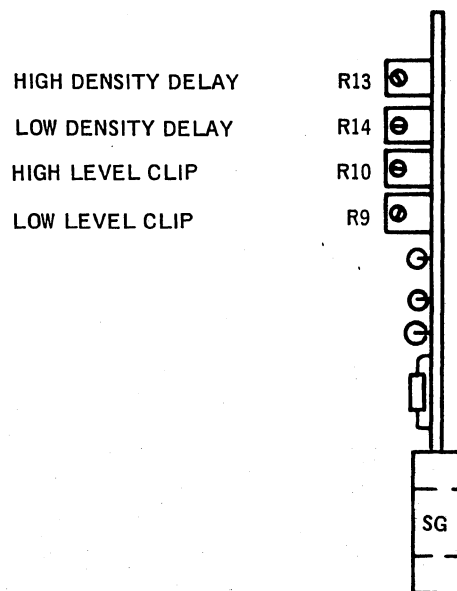

Figure 5-1
- Step 4: Adjust R9 (bottom potentiometer) on the strobe generator (SG) PCB at B8 to obtain $+1.40 \pm 0.05$ volts between B8-32 and TS1-3, as indicated on the voltmeter. (See Figure 5-1 for potentiometer location.)